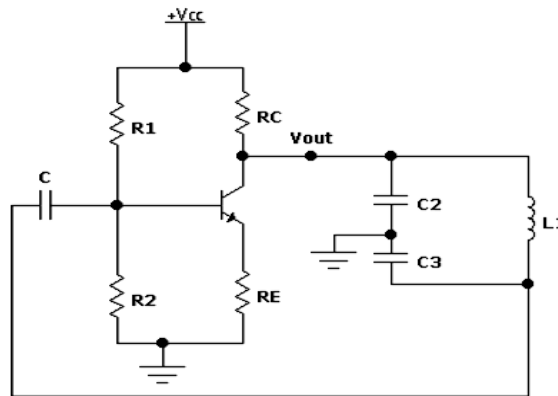

Figure 1: Colpitts Oscillator
1. Make a circuit as shown in figure 1. Select proper values of L1, C2 and C3.